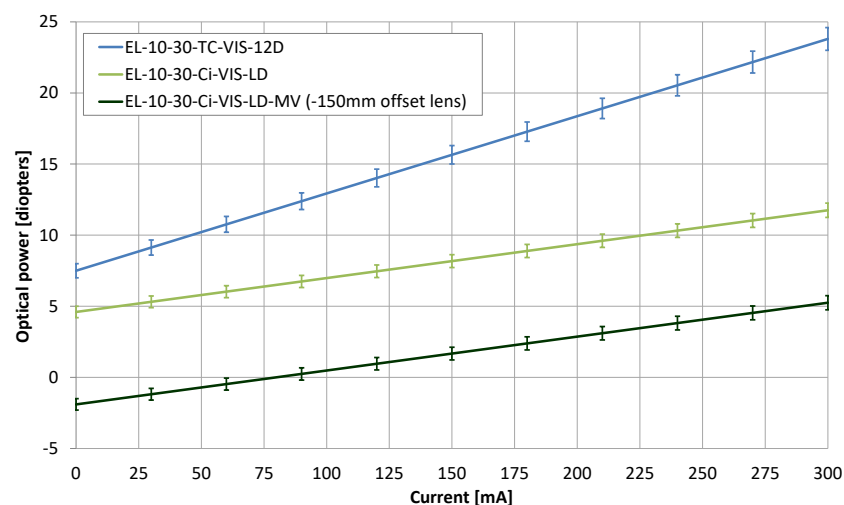

Figure 6: Relation of optical power to current for the most common EL-10-30 lenses at 30°C. The error bars show the standard deviation from lens to lens.
The optical power of the EL-10-30 increases with current, shown in Figure 6. The starting point at zero current is set during production and can be varied from lens to lens, whereas the maximal value is 500 mm. The slope of the optical power is influenced by the mechanical properties of the membrane, which can also be varied on request to achieve different ranges. In open loop systems, a calibration of the lens with look-up tables is recommended. The focal length also depends on temperature, see paragraph *temperature effects*.
0.1 λ for the C-mount LP-version, 0.2 λ for the C-mount MV-version and 0.4 λ for the compact version of the EL-10-30. The difference between the different variations of the EL-10-30 lenses is the design of the membrane. The stronger membrane of the EL-10-30-C (with the LP version having the strongest membrane) reduces the gravity effect, however at the expense of focal tuning range (4 diopters for the EL-10-30-C-VIS-LD-LP, 7.5 diopters for the EL-10-30-C-VIS-LD and 14 diopters for the EL-10-30-VIS-LD, see Figure 6).